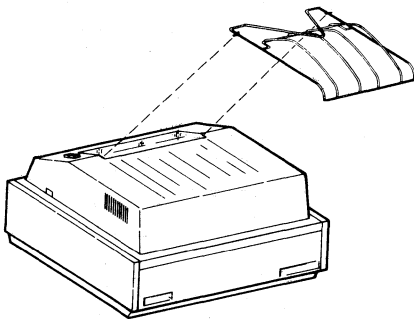

Fig. 10—Paper Guide
- 3.11 Close cover and snap paper guide into position (Fig. 10).